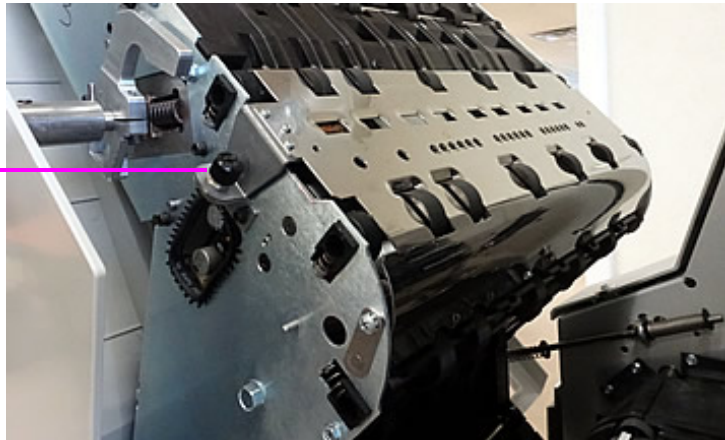

Figure 5-4: Loosen graphic printer thumbscrew
2. Loosen the thumbscrew shown in Figure 5-4.